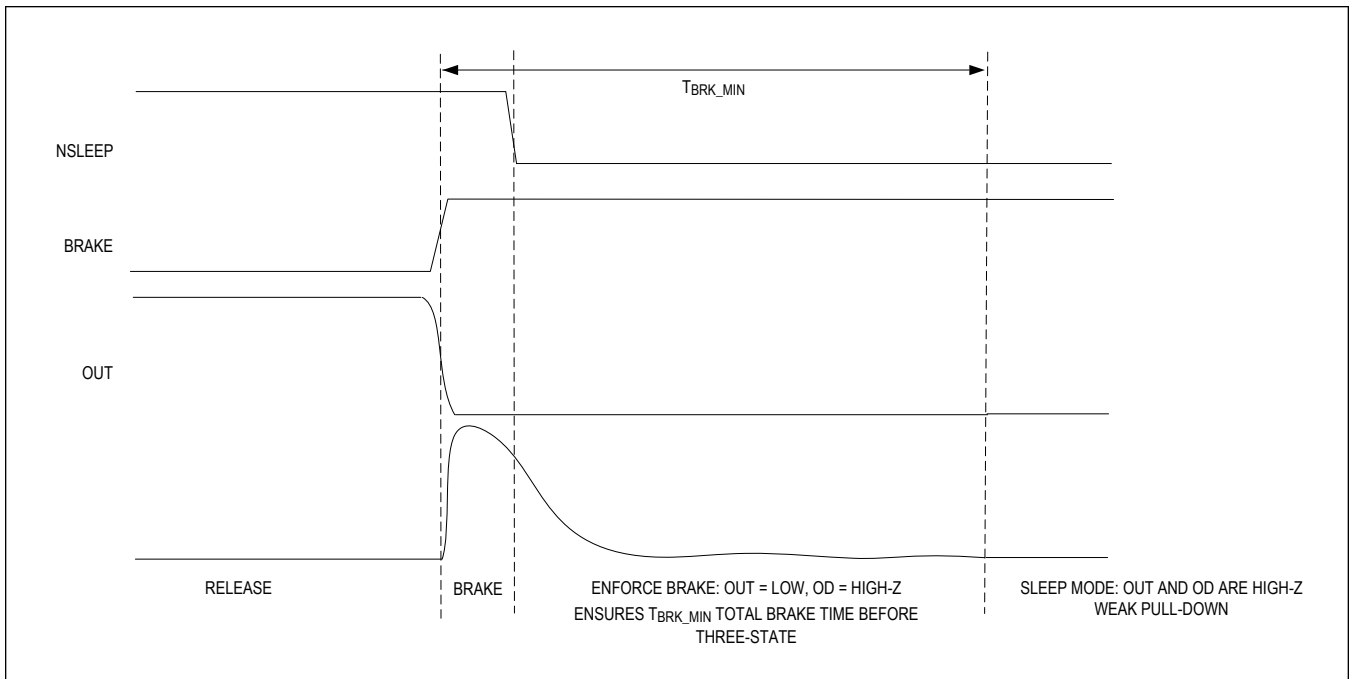

Figure 2. Minimum BRAKE Time before SLEEP
If a Go to SLEEP request is issued while the device has been in BRAKE mode for less than $TBRK_MIN$, the MAX22215 automatically extends the BRAKE phase and enters in SLEEP mode when t_{BRK_MIN} is reached (see Figure 2).
- If a Go to SLEEP request is issued while the device has been in BRAKE mode for less than $t_{\text{BRK_MIN}}$, the MAX22215 automatically extends the BRAKE phase and enters in SLEEP mode when $t_{\text{BRK_MIN}}$ is reached (see Figure 2)